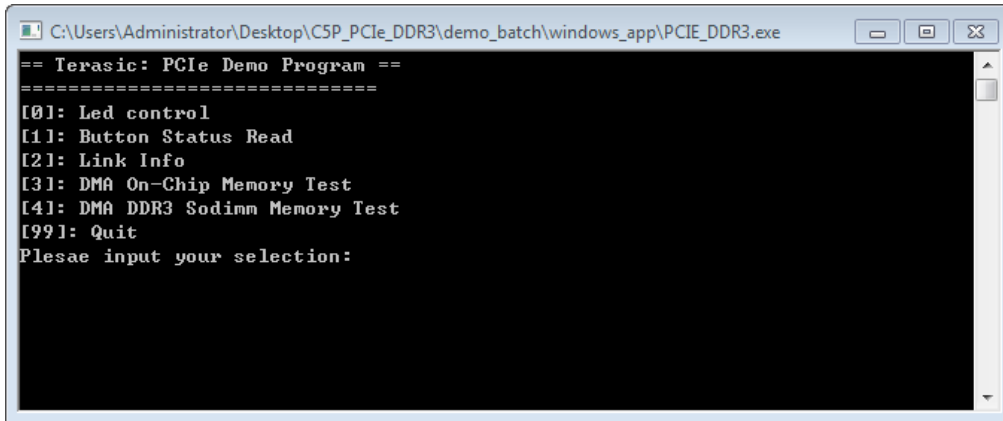

Figure 7-15 Screenshot of Program Menu
5. Goto windows_app folder, execute PCIE_DDR3.exe. A menu will appear as shown in **Figure 7-15**.